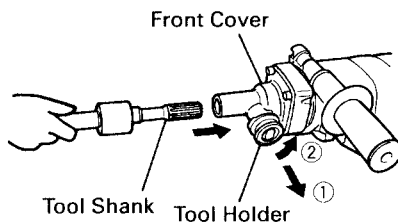

Fig. 3
- (1) Clean, then smear the tool shank with the grease provided in the green tube.
- (2) Pull the tool holder in the direction of arrow ① and rotate it in the direction of arrow ② (counterclockwise). Fully insert the tool shank into the hexagonal hole of the front cover. (Fig. 3)
- (3) Return the tool holder to fix the tool.